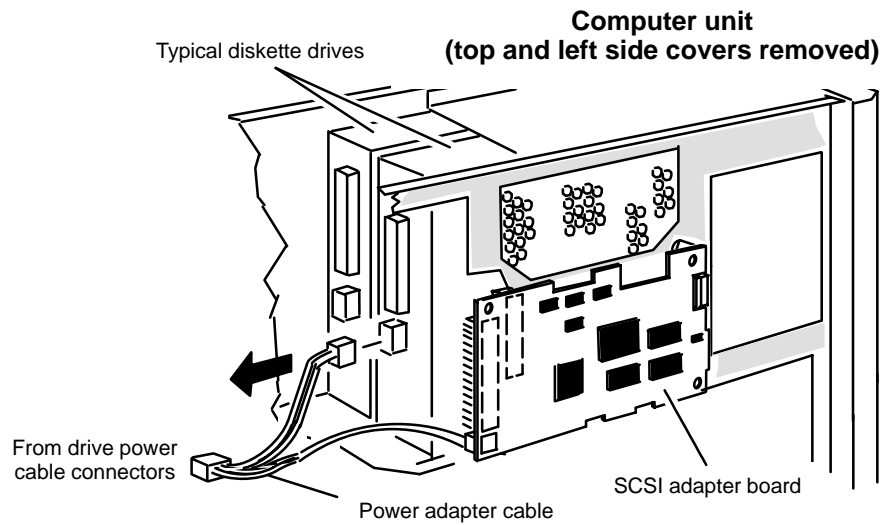

Figure 7-4 Unplugging the Power Adapter Cable from a Diskette Drive
3. Next unplug the power adapter cable from the diskette drive you are removing as shown in Figure 7-4.